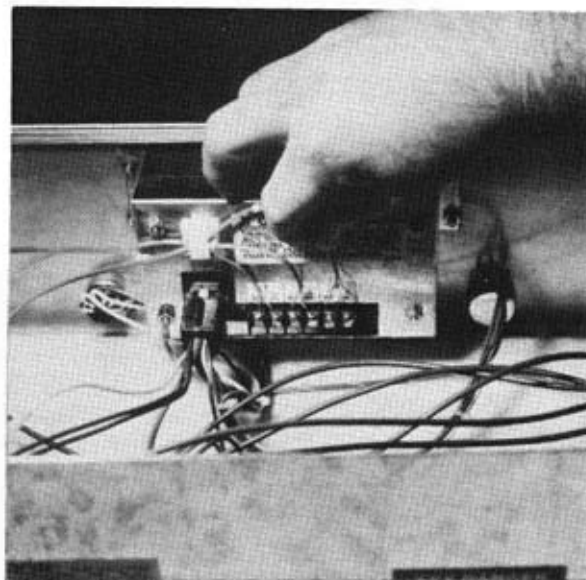

FIG. 2
10. Transfer the three (3) thermocouples to new circuit board from respective terminals of defective board observing red and yellow terminal connections (See Figure 2).
12. Replace the two (2) screws securing power board bracket to escutcheon.
13. Replace the six (6) screws securing top to side panels and place unit back into service.